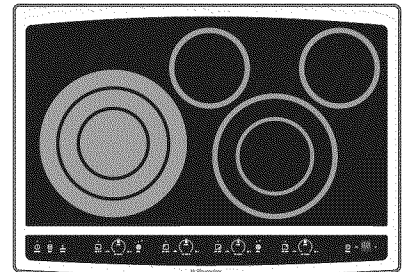
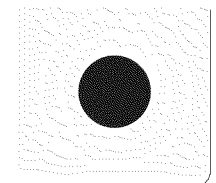
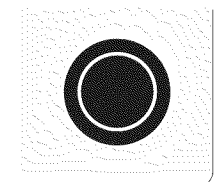
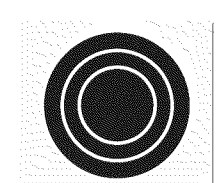

Fig. 1
Fig. 3
Fig. 4
Fig. 5
Both the 30" and 36" cooktops are equipped with "Triple" surface radiant elements located as shown in Figs. 1 & 2. A touch key pad on the element controls is used to select one of the 3 positions of the element. Indicator lights on the control panel are used to indicate which coil of the triple radiant element will heat. One indicator light on indicates that only the INNER coil will heat (Fig. 3). Two indicator lights on indicate that both INNER and MIDDLE coils will heat (Fig. 4). Three indicator lights on indicate that all 3 portions of the element will heat (Fig. 5). You may switch from either of these settings at any time during cooking.
4. Select the INNER (Fig. 3), MIDDLE (Fig. 4) or ALL 3 element (Fig. 5) to heat by touching the  key pad.